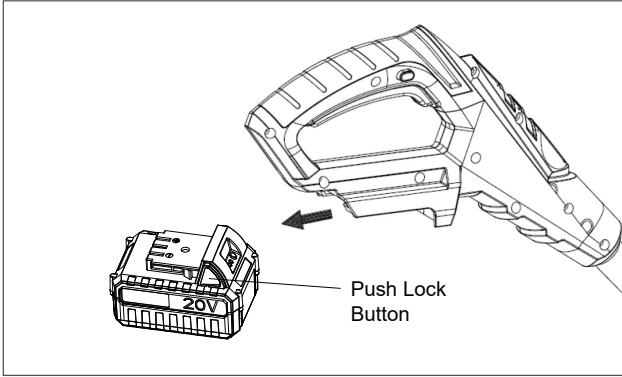

Fig. 4
1. Press the push-lock buttons on the battery to pull the battery pack out of the equipment. (Fig.4)